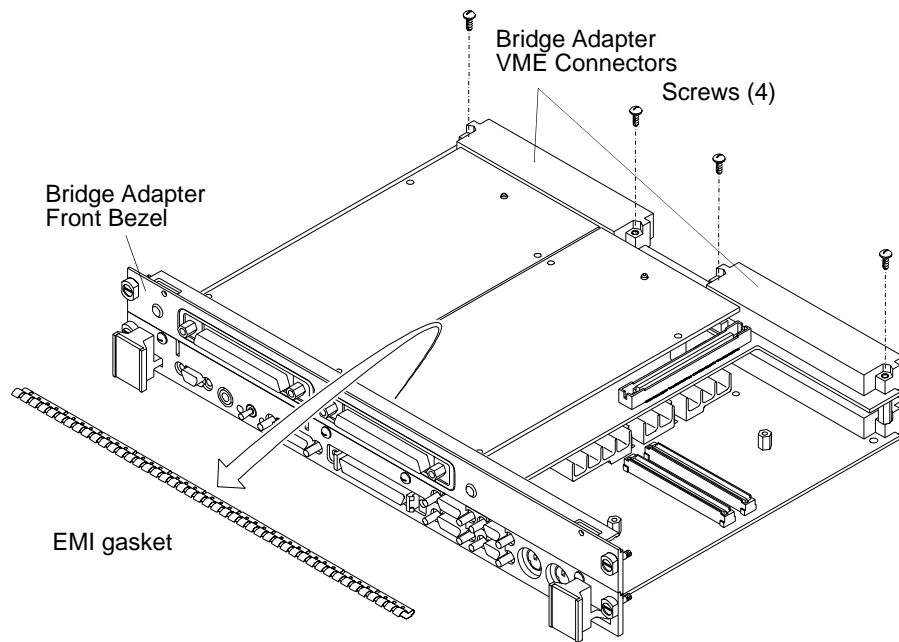

Figure 2-8
- 9 Remove** the four screws from bridge adapter VME connectors, as shown in Figure 2-8.
- 10** Using a small screwdriver or razor, remove the copper EMI gasket on the front bezel of the bridge adapter, as shown in Figure 2-8.